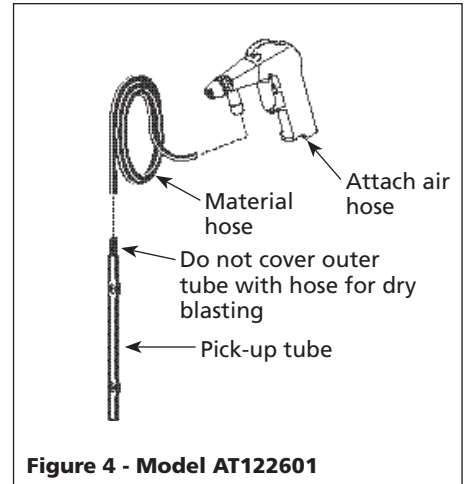

Figure 4 - Model AT122601
1. Attach material hose to the pick-up tube. Place pick-up tube in bag of medium. (See Figure 4).